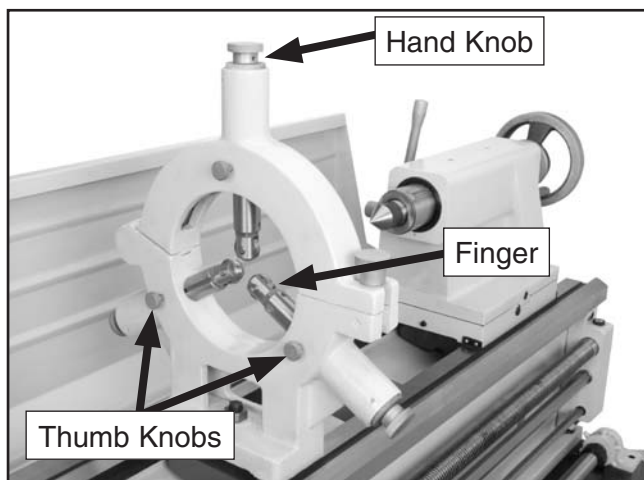

Figure 35. Steady rest adjustments.
2. Loosen the three thumb knobs so the finger positions can be adjusted (see **Figure 35**).